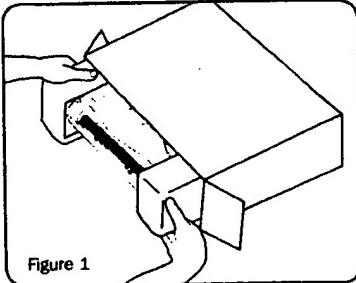

Figure 1
1. Unpack and remove the whole unit from packaging (fig.1).